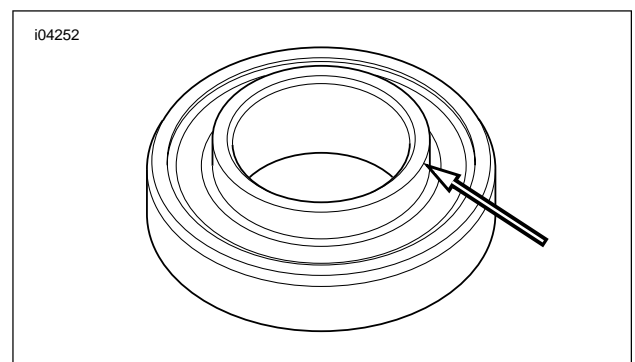

Figure 2-78. Steering Head Bearing Lip
- a. See Figure 2-78. Place the upper bearing squarely in the steering stem bore with the inner race lip pointing away from the steering head.